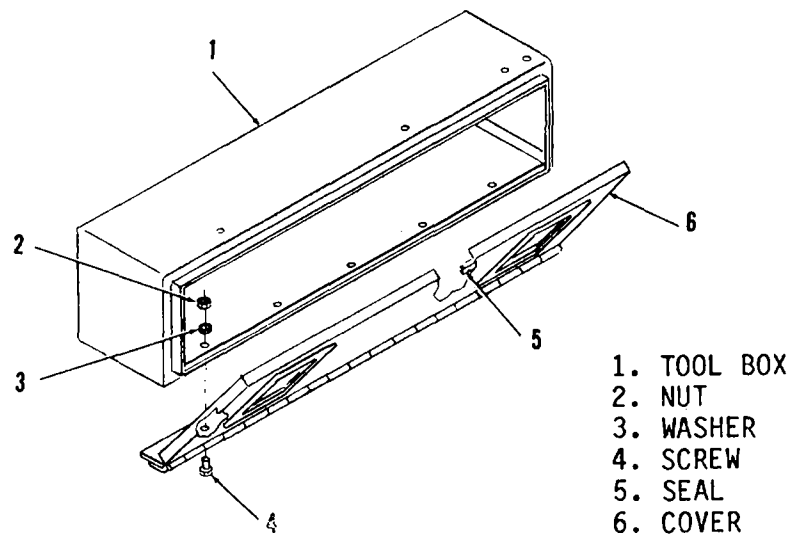

Figure 3-1. Tool Box Assembly
b. Disassembly. Refer to figure 3-1 and disassemble tool box as follows:
(1) Remove nuts (2), washers (3), and screws (4) and separate cover assembly (6) from tool box (1).
(2) Remove seal (5) if damaged or deteriorated.